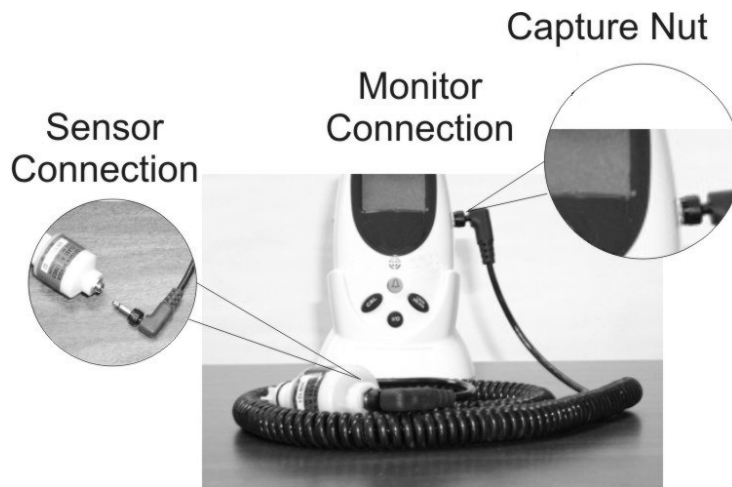

Figure 2-2: Sensor Cable Connection to Analyzer
3. Plug the other end of the coiled cable into the receptacle located on the right side of the unit and secure it in place using the capture nut. See Figure 2-2.